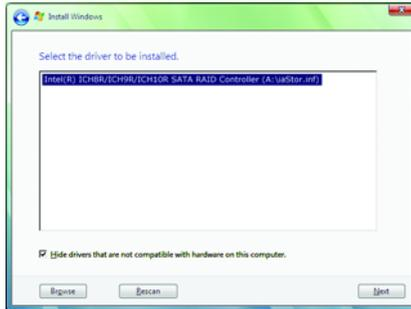

Figure 6
When a screen as shown in Figure 6 appears, select **Intel(R) ICH8R/ICH9R/ICH10R/DO SATA RAID Controller (A:\u002Fstor.inf)** and click **Next**.